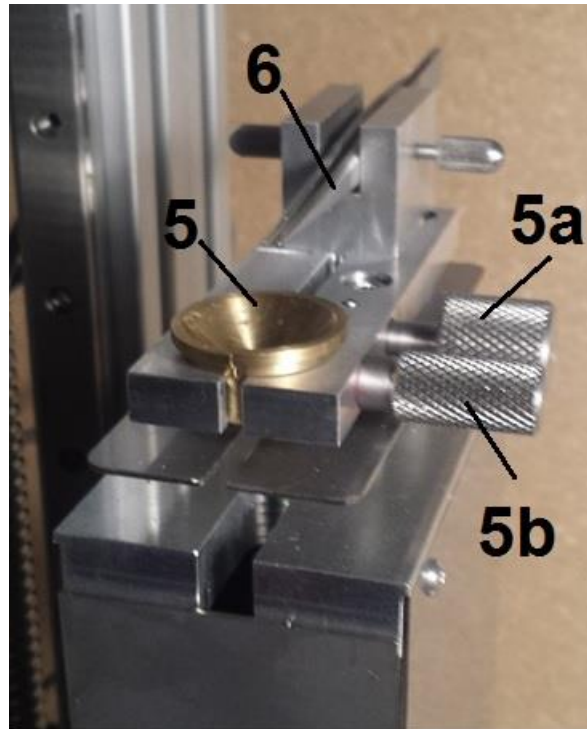
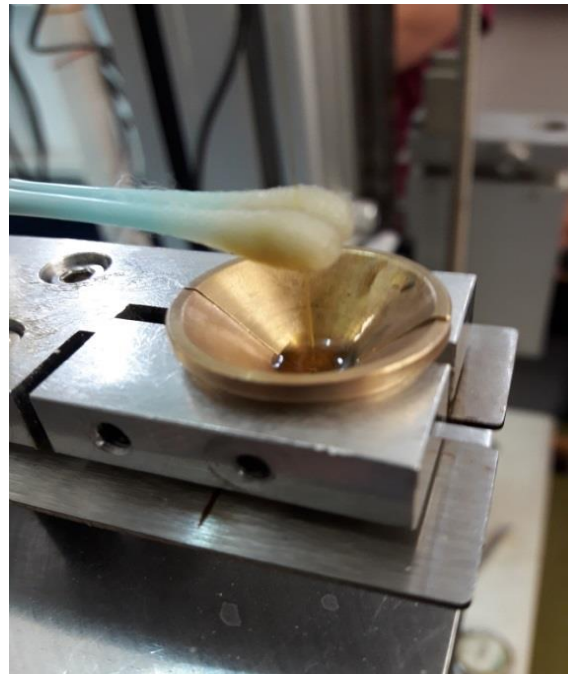

Fig.2 Polyimide coating die
Fig.3 Cotton tips on the ends of tweezers
Fiber Polyimide Recoater consists of a vertical ball screw 1 driven by a motor 2. While rotating screw 1 moves the carriage 3, on which three-zone oven 4 and polyimide coating die 5 are mounted. Polyimide coating die 5 consists of two splitted part-moieties. (see Fig.2). It is also equipped with screw 5a and clamp screw 5b for coating die fixing. Above the coating die 5 there is a slot into which the tweezers 6 can be mounted. On the ends of tweezers 6 cotton tips are sometimes installed for ensuring the uniformity of the fiber coating and cleanup it (see Fig.3)
- Open screw **5a** for coating die fixing (Fig.2);
- Insert first die moiety and fix it with die fixing screw **5a** (Fig.2);
- Insert second die moiety and fix it with clamp screw **5b** (Fig.2), at that fiber should be within the die hole;